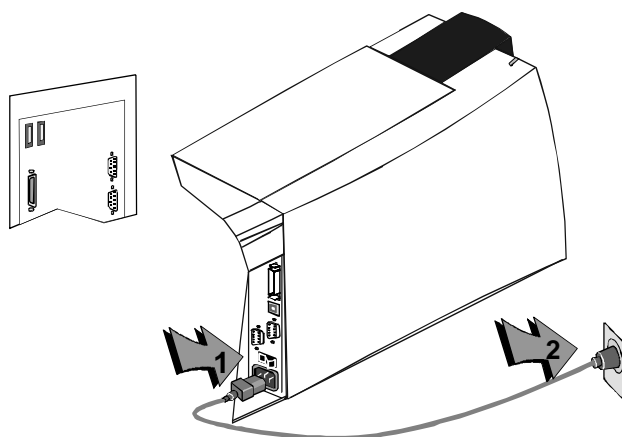

Figure 7-5: Connect the power cord
- 1 Attach the power cord to the power receptacle on the back of the printer (step 1 in Figure 7-5).
- 2 Plug the other end of the power cord into a single-phase, 3-wire grounded receptacle with 90-130V AC or 195-254V AC at 50 or 60 Hz (step 2 in Figure 7-5).